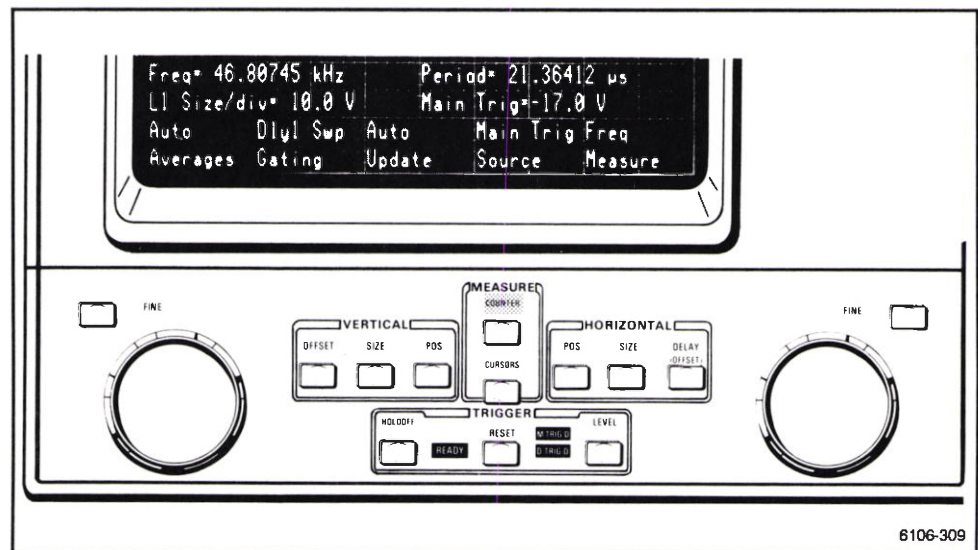

Figure 2-110. Counter/Timer menu with Dly1 Swp gating selected.
2. Using the COUNTER menu, touch *Gating* to select **Dly1 Swp** as the gating type. (See Fig. 2-110.)